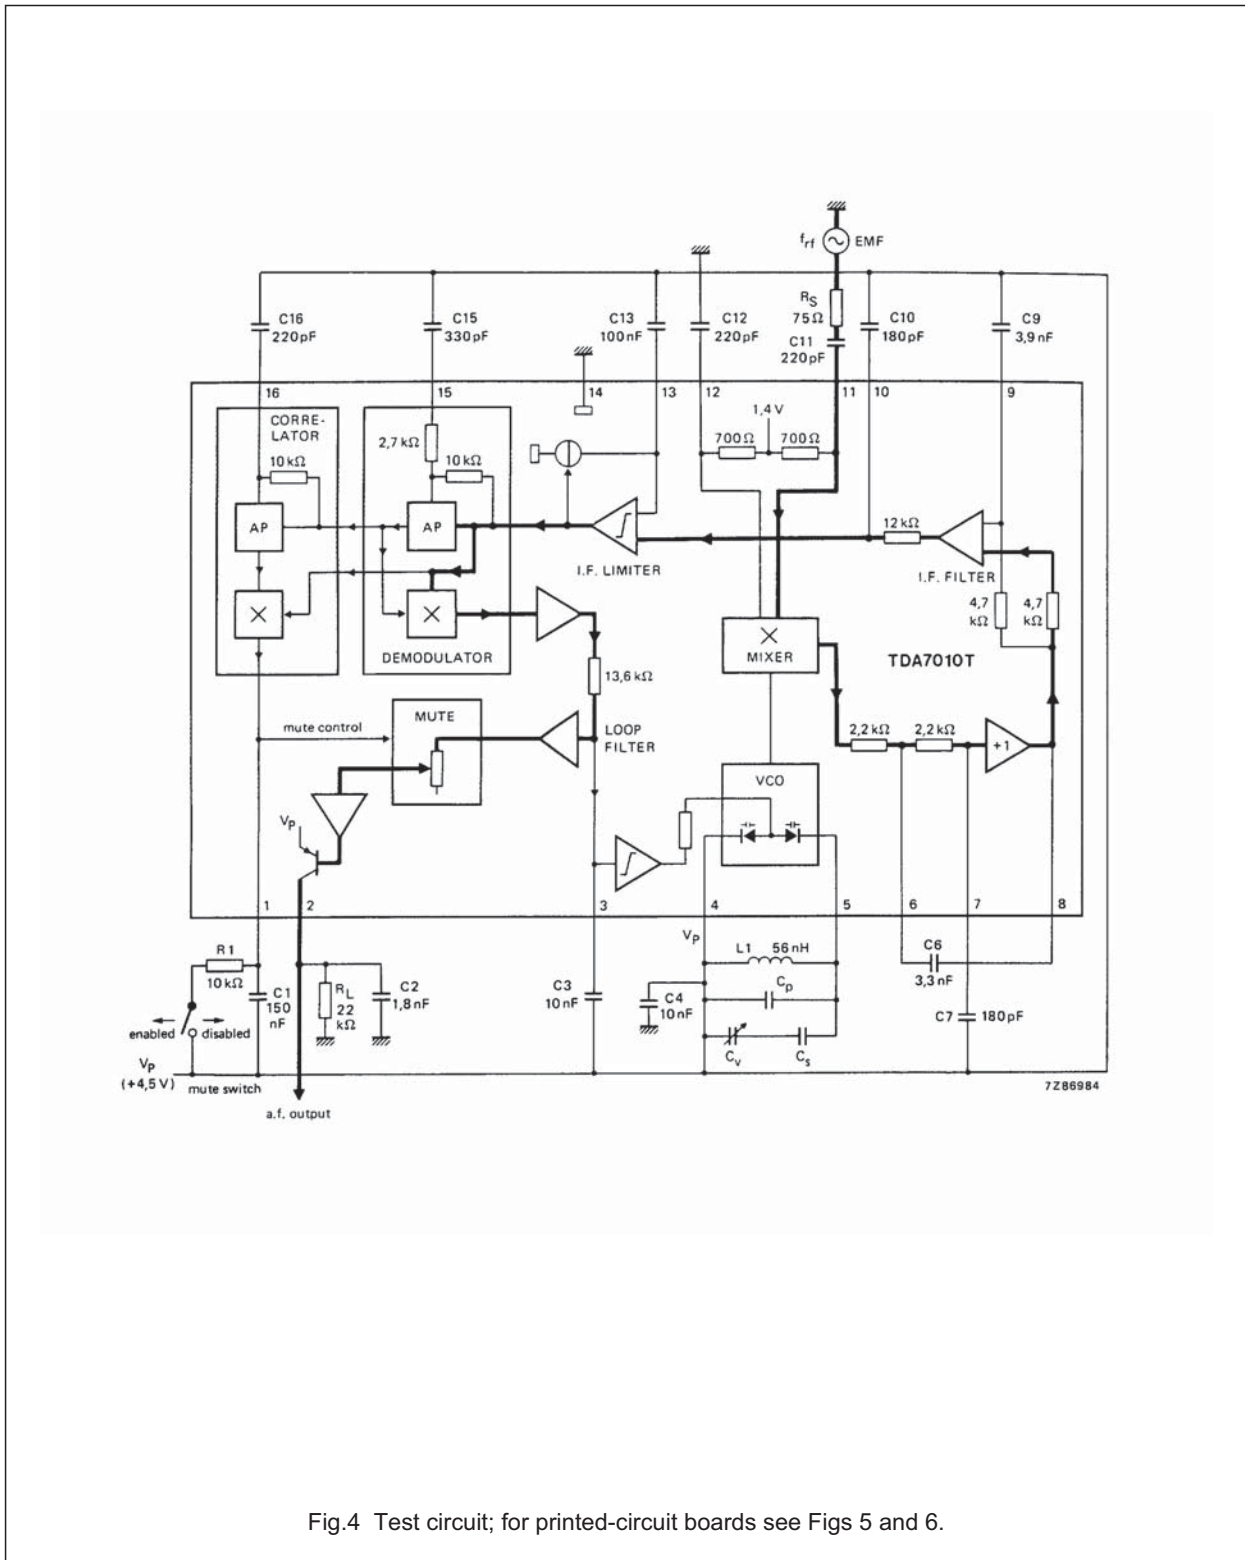

Fig.4 Test circuit; for printed-circuit boards see Figs 5 and 6.
**D.C. CHARACTERISTICS** $V_P = 4,5$ V; $T_{amb} = 25$ °C; measured in Fig.4; unless otherwise specified
$V_p = 4,5 \text{ V}$; $T_{amb} = 25 \text{ }^\circ\text{C}$; measured in Fig.4 (mute switch open, enabled); $f_{rf} = 96 \text{ MHz}$ (tuned to max. signal at $5 \text{ } \mu\text{V}$ e.m.f.) modulated with $\Delta f = \pm 22,5 \text{ kHz}$; $f_m = 1 \text{ kHz}$; $EMF = 0,2 \text{ mV}$ (e.m.f. voltage at a source impedance of $75 \text{ } \Omega$); r.m.s. noise voltage measured unweighted ($f = 300 \text{ Hz}$ to 20 kHz); unless otherwise specified.